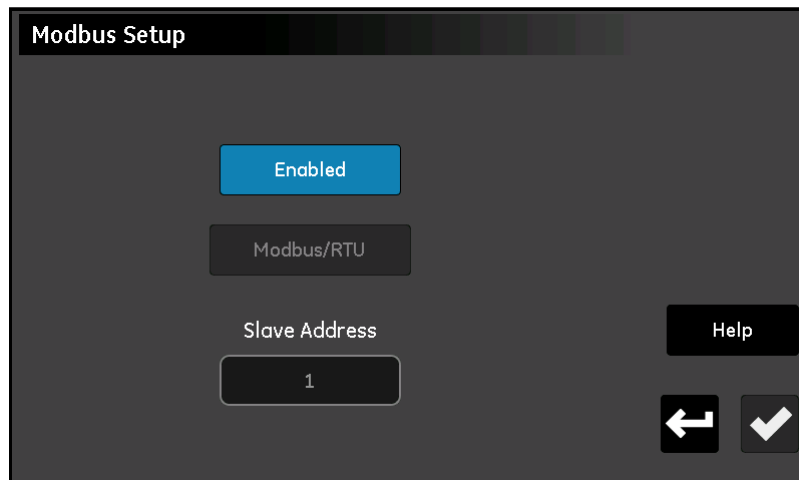

Figure 68: Modbus Setup Screen
1. From the *Configuration Menu* screen (see Figure 52 on page 57), tap the **Modbus** button to open a *Modbus Setup* screen similar to Figure 68 below.